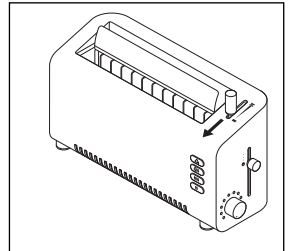

Fig.1
- 2 Adjust the slot width using the lever (2) to suit the food item (Fig 1). **CAUTION:** Take care not to touch the adjustable heating panel, it may be hot.